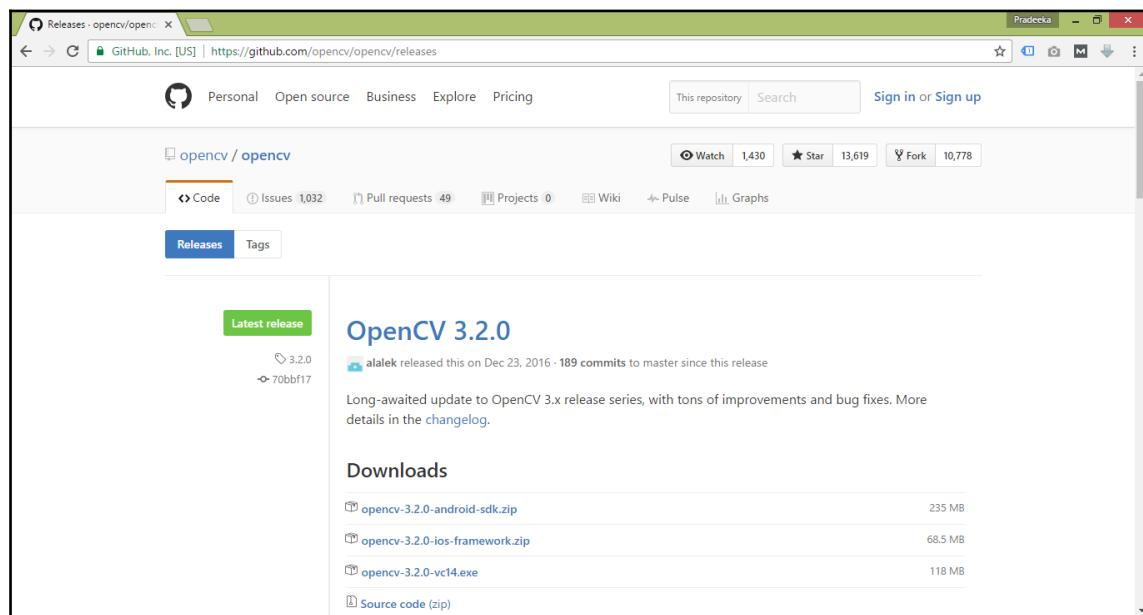

Figure 7-14: OpenCV 3.2.0 release downloads
2. The GitHub page (Figure 7-14) at <https://github.com/opencv/opencv/releases> lists all the releases of OpenCV and the latest release is **OpenCV 3.2.0**, dated Dec 23, 2016 at the time of writing this book. We need only the source code of **OpenCV 3.2.0**, labeled as **Source code (zip)** to build OpenCV on the Raspberry Pi: